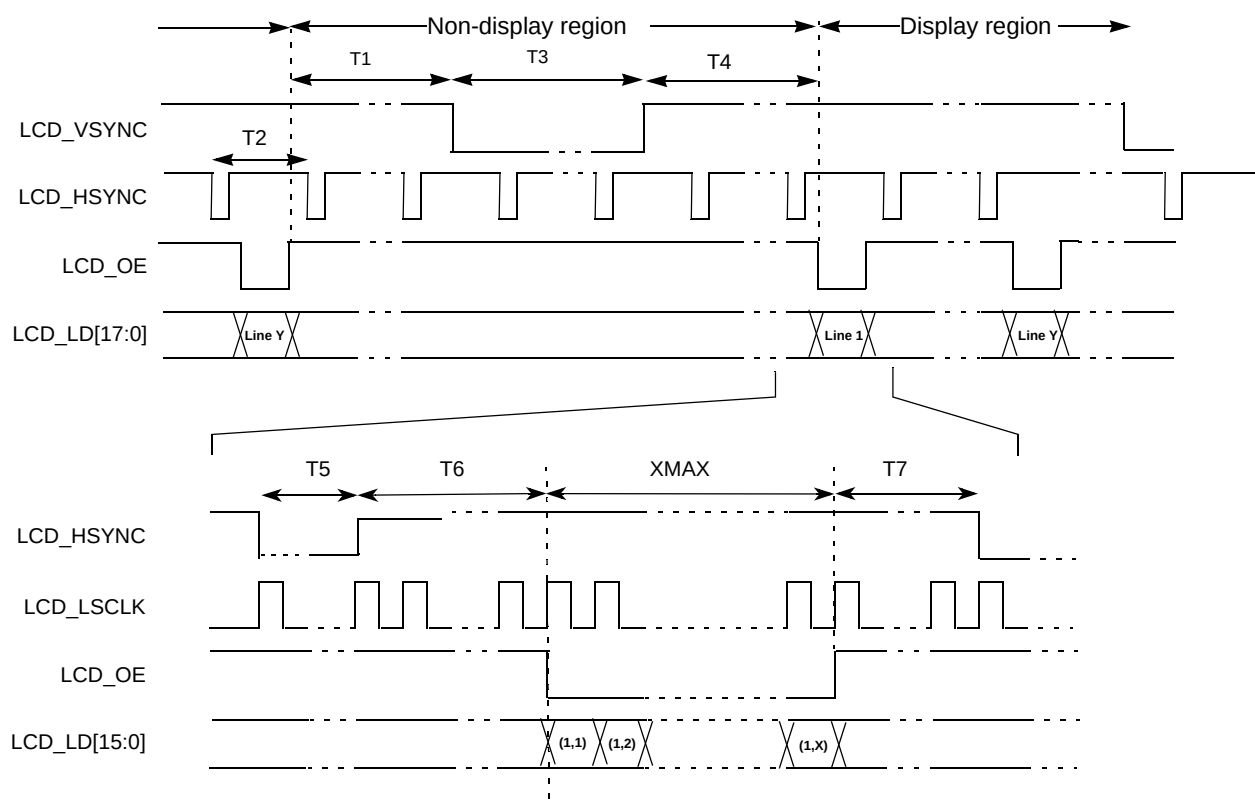

**Figure 16. 4/8/12/16/18 Bit/Pixel TFT Color Mode Panel Timing**
**Note:** Ts is the LCD\_LSCLK period. LCD\_VSYNC, LCD\_HSYNC and LCD\_OE can be programmed as active high or active low. In Figure 16, all 3 signals are active low. LCD\_LSCLK can be programmed to be deactivated during the LCD\_VSYNC pulse or the LCD\_OE deasserted period. In Figure 16, LCD\_LSCLK is always active.